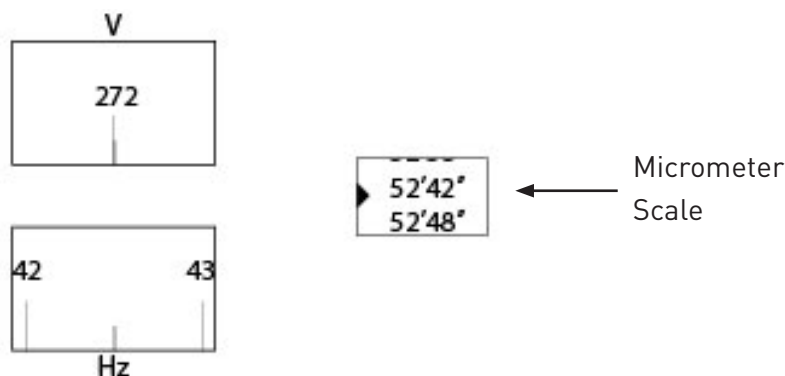

Figure 8. Circle graduation line aligned exactly in middle of double line index.
3. To achieve a correct reading, turn the micrometer screw to align the circle graduation line exactly in the middle of the double line index (see Figure 8 below).
4. **Example:** The vertical measurement displayed in Figure 8 is approximately $272^{\circ}52'44''$.